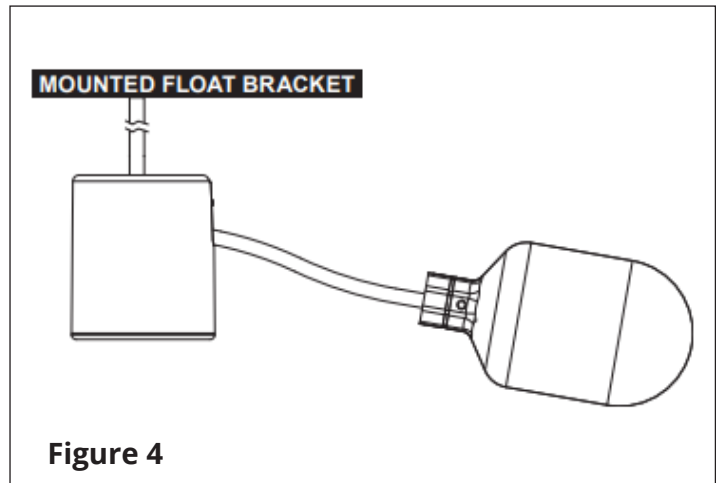

Figure 4
4. Suspend the float switch with the cable weight at the determined activation level using a mounted float bracket or per local codes (Figure 4).